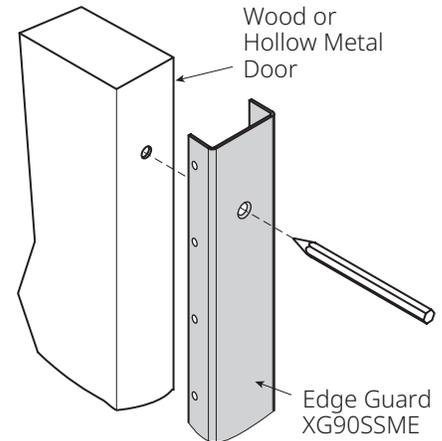

Fig. 1
- Place edge guard on edge of door. Position top of edge guard so that it is flush with top of door (Fig. 1).
- Mark and center punch each hole on door with edge guard held firmly in place. Remove edge guard from door. Prepare to drill holes (Fig. 1).